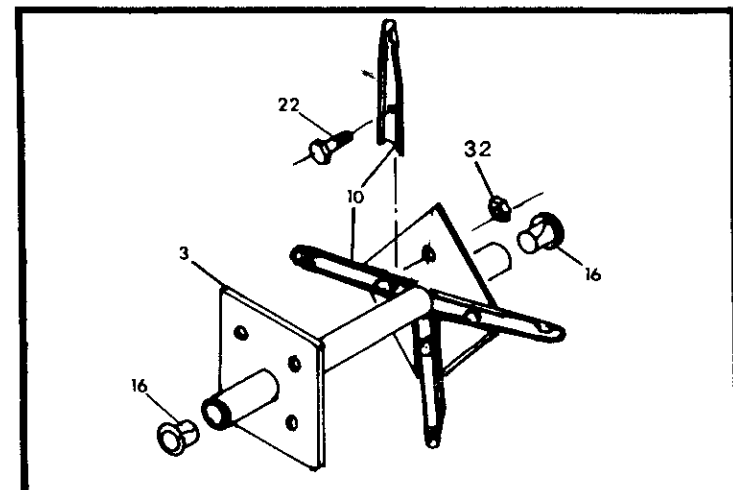

Fig. 3
Refer to Fig. 3.
- Insert the Axle Assembly (11) partially through hole in Side Plate (6) at RIGHT SIDE.
- 3/4" Flat Washer (29).
- Outer Tube Assembly (13)- with short Hub end next to Right Side Plate.
- Center Tube Assembly (14).
- Outer Tube Assembly (13) with short Hub end next to Left Side Plate.
- IMPORTANT:** Make sure Nylon Bearings are inside Tube Assemblies. See Fig.3.
- Align Axle Assembly shaft end with hole in Left Side Plate and push through as far as possible. Slide on a 3/4" Flat Washer (29).
- Install Lift Handle Assembly (12) over Axle Assembly Shaft- Welded Tube on Lift Handle FACING OUT.
- Position strap on Axle Assembly (at opposite side) in line with short end extending from Lift Handle (with Wheel mounting holes) and align holes in Handle Tube and Axle Shaft. Insert a 5/16"x1-1/2" Hex Bolt (21) and secure with a 5/16" Lock Nut (1).
- Slip Handle Grip (15) over end of Lift Handle.